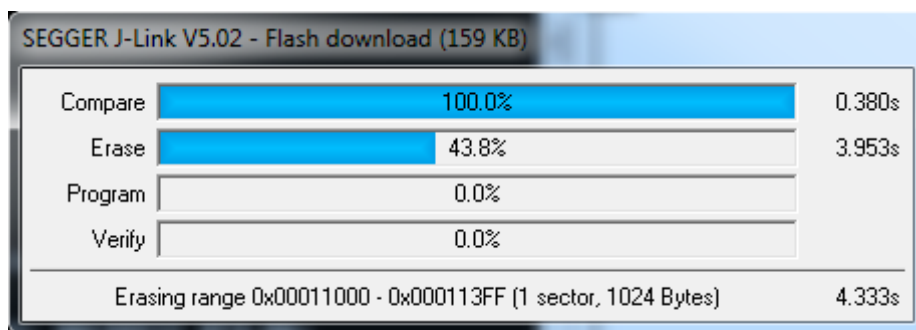

Figure 11. Board flashing
6. Wait for the board to flash (see Figure 11).